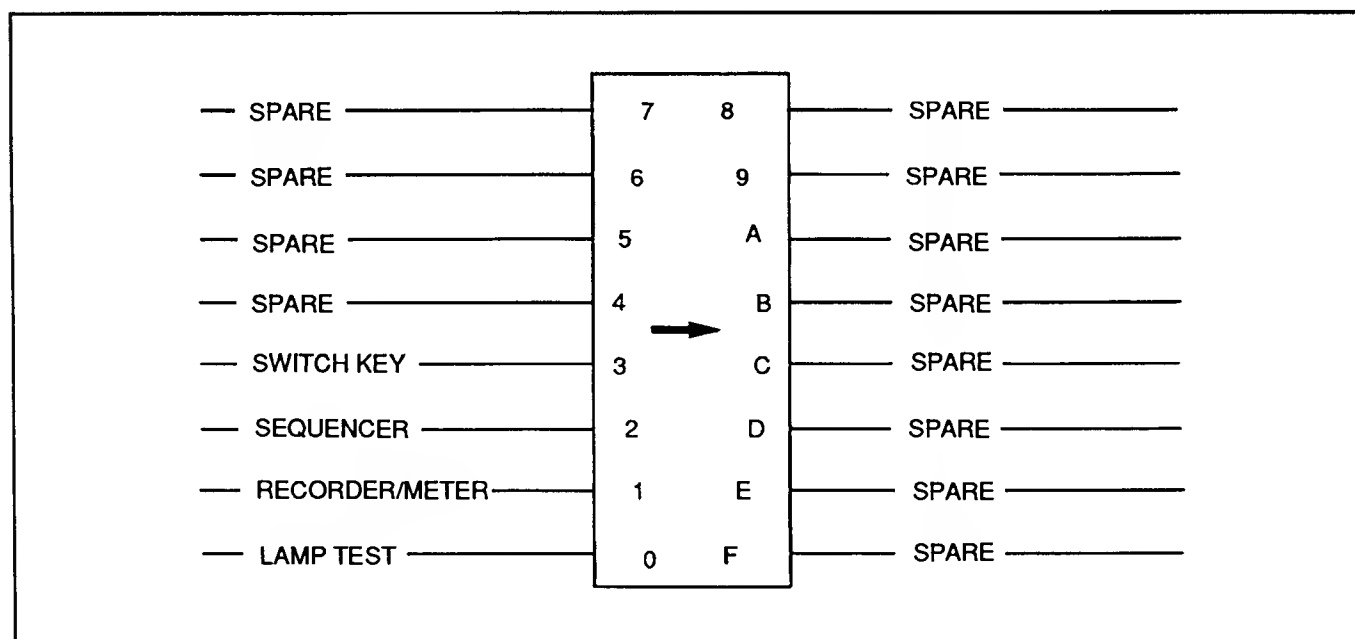

Figure 6-4. TEST Switch Positions
- (2) Using the front panel up and down arrow keys, scroll through the menu of end-of-string terminations until the desired table number, as listed in Table 6-4, appears on the dB CAL FACTOR display. (Factory preset value is Table No. 0.)
- (3) Press the LOAD REF key.
l. Set FUNCTION switch A5S2 to position B (BEC "Test"). This position of FUNCTION switch A5S2 is provided as an aid to troubleshooting. It is used in conjunction with TEST switch A6S1 to set the instrument to various fixed states of operation. Refer to Figure 6-4 for selectable test functions.